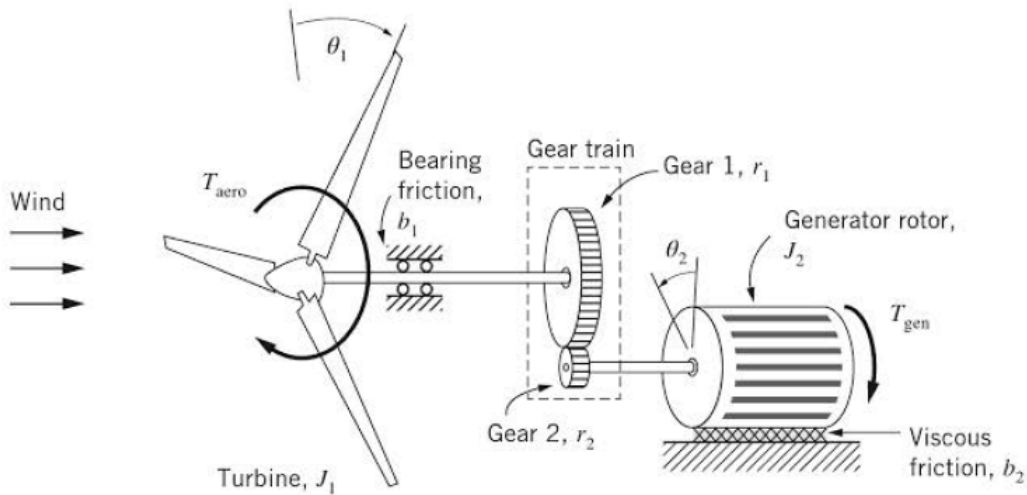

Figure P6.19
6.19 Figure P6.19 shows the wind turbine generator system from Example 2.8 in Chapter 2. The system inputs are aerodynamic torque T_{aero} (from the wind) and generator (or electrical) torque T_{gen} . The system parameters for a 3000 kW wind turbine generator are